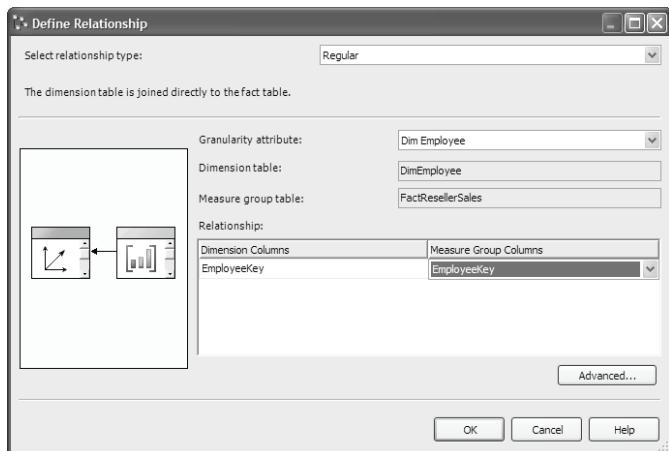

Figure 3.33 Use the Define Relationships dialog to link a dimension to a measure group.
5. Click on the “...” button inside the cell located at the coordinates of the Employee dimension and Fact Reseller Sales measure group. The Define Relationships dialog is shown (Figure 3.33).